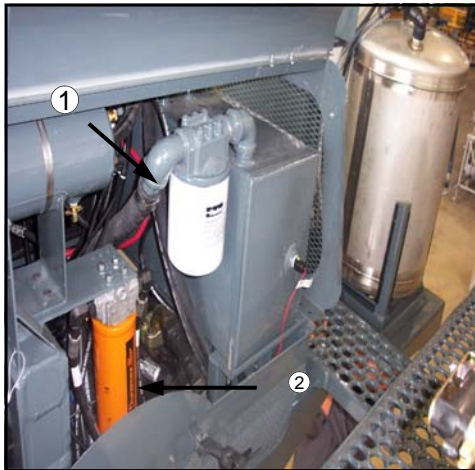

FIG 8.17
Remove and install a new 10 Micron rated suction filter (fig. 8.17, item 1) at the end of the first 50 hours of use; subsequently, replace the filter every 250 hours, or once a year, whichever comes first.
Remove and install a new 4 Micron rated charge pressure filter (fig. 8.17, item 2) at the end of the first 50 hours of use; subsequently, replace the filter every 250 hours, or once a year, whichever comes first.